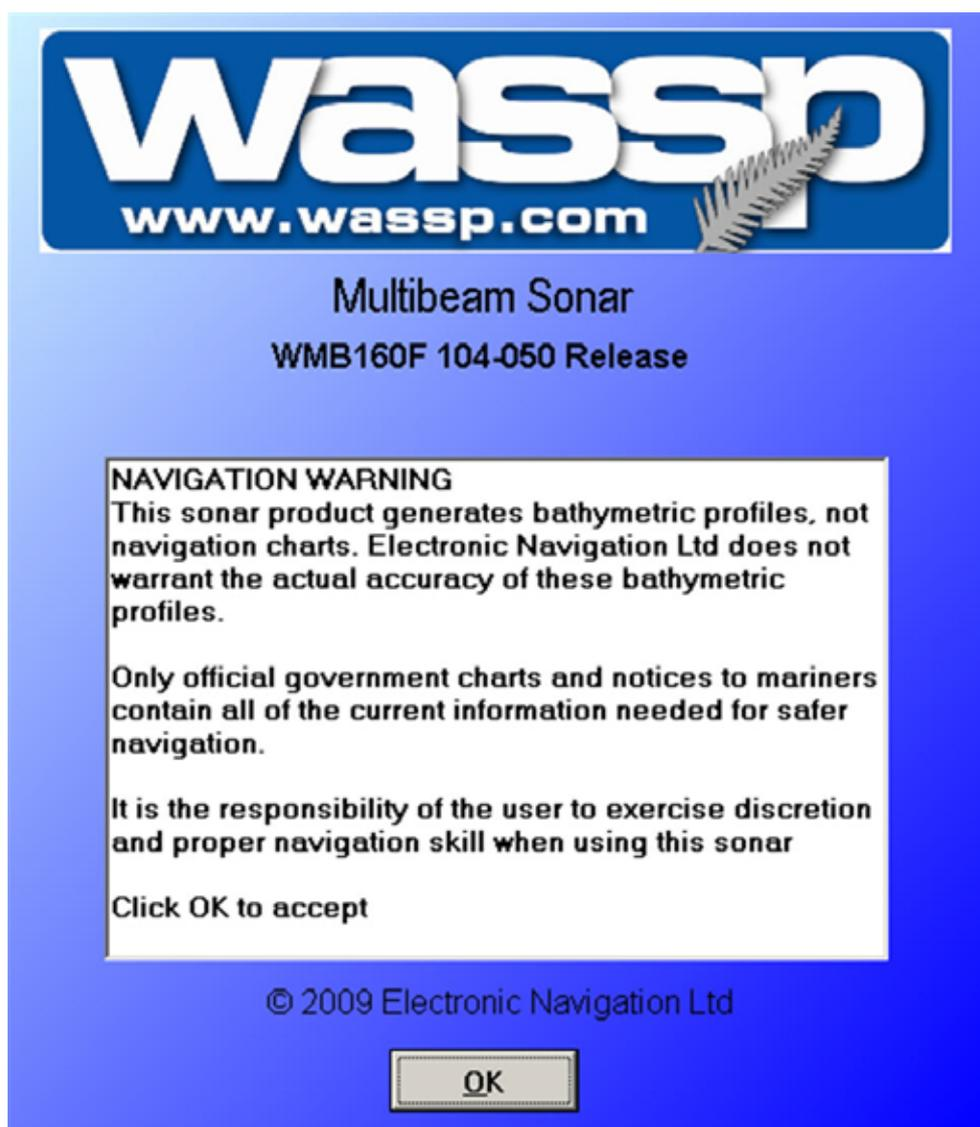

Figure 4 – WMB-160F Multi-beam Sonar System Navigation Warning
**User Interface** After accepting the Navigation Warning, when the WMB-160F program starts up, a screen similar to the one shown in Figure 4 is displayed.
Figure 4 shows the user interface in a 4-screen configuration. The menu task bar is displayed vertically on the right hand side of the screen.